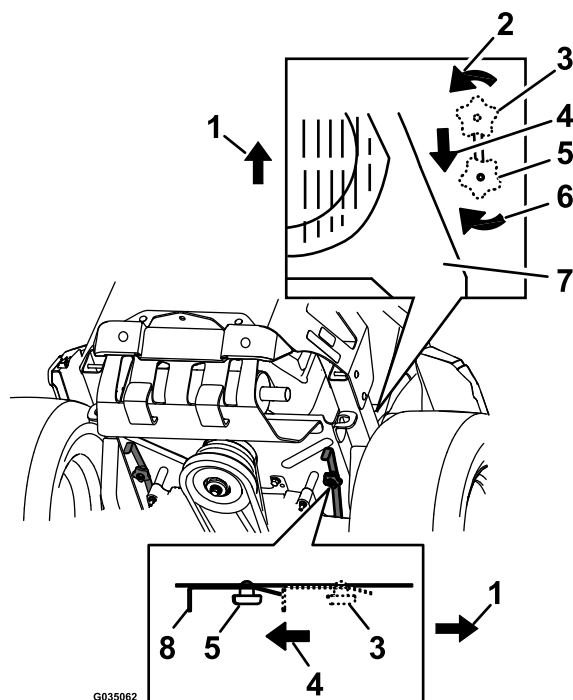

Figure 30
4. To push the machine, move both bypass knobs rearward and lock them into place (Figure 30).
6. To run the machine, move the bypass knobs to the FORWARD position and lock them into place (Figure 30).